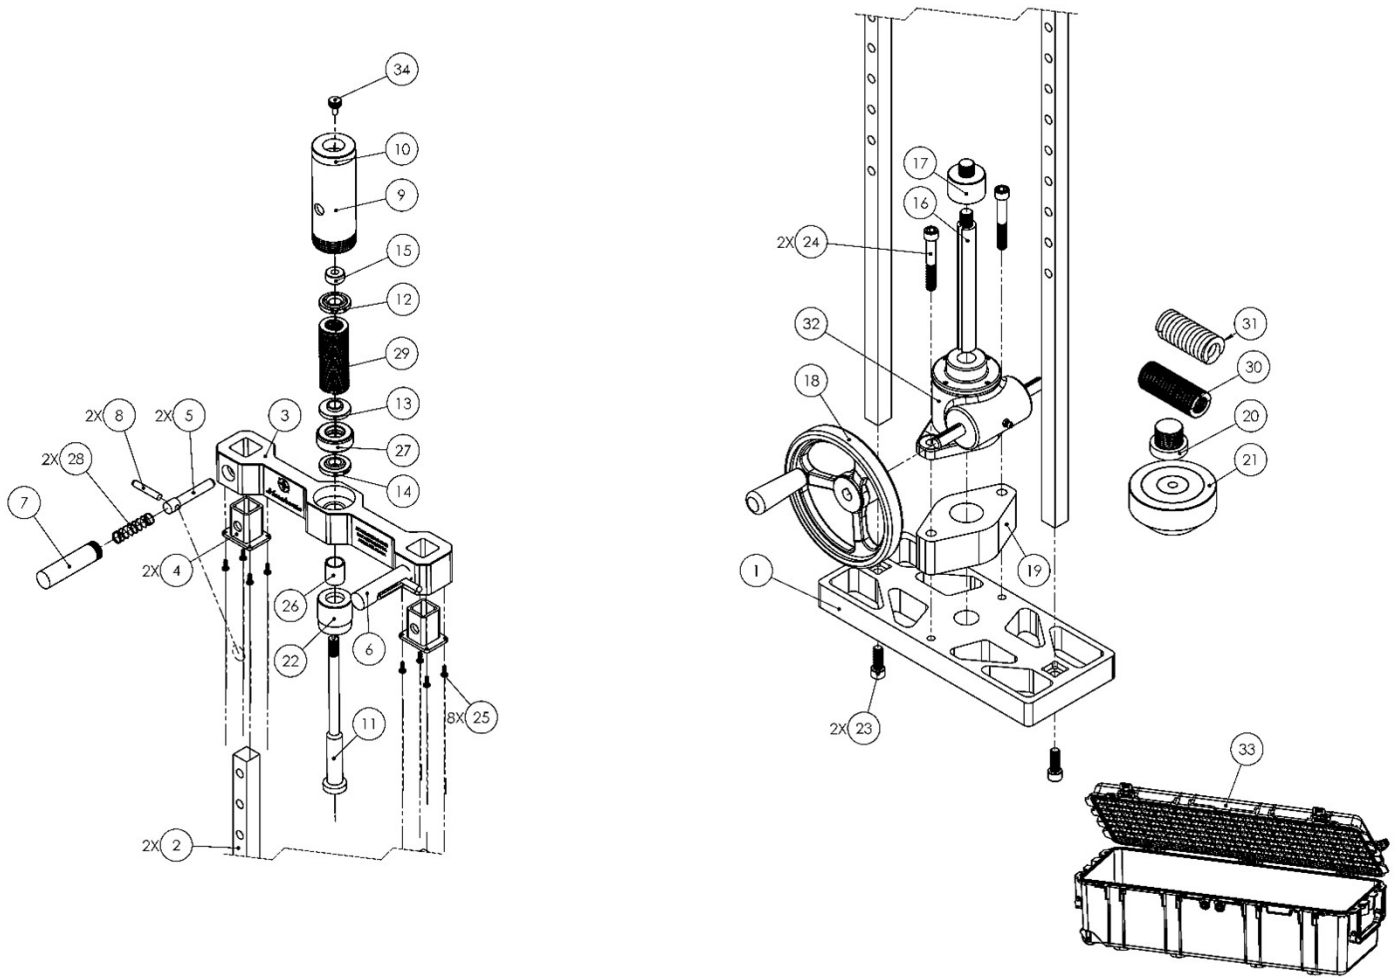

Figure 8: General Assembly of a Portable Calibrating Machine, Model: PCM-2MD-02
- The quick-adjust latches on the stage beam have a critical role in load bearing capability of the Portable Calibrating Machine. Before starting to apply a force, check the latches to ensure that they are completely pushed in, and the holding pin is fully engaged. Figure 8 demonstrates how the engagement of the stage beam latches need to be checked.
To order parts and accessories for your Portable Calibrating Machine, contact Morehouse Sales team. Figure 8 and Table 2 demonstrate the parts included in a Portable Calibrating Machine Model PCM-2MD-02.